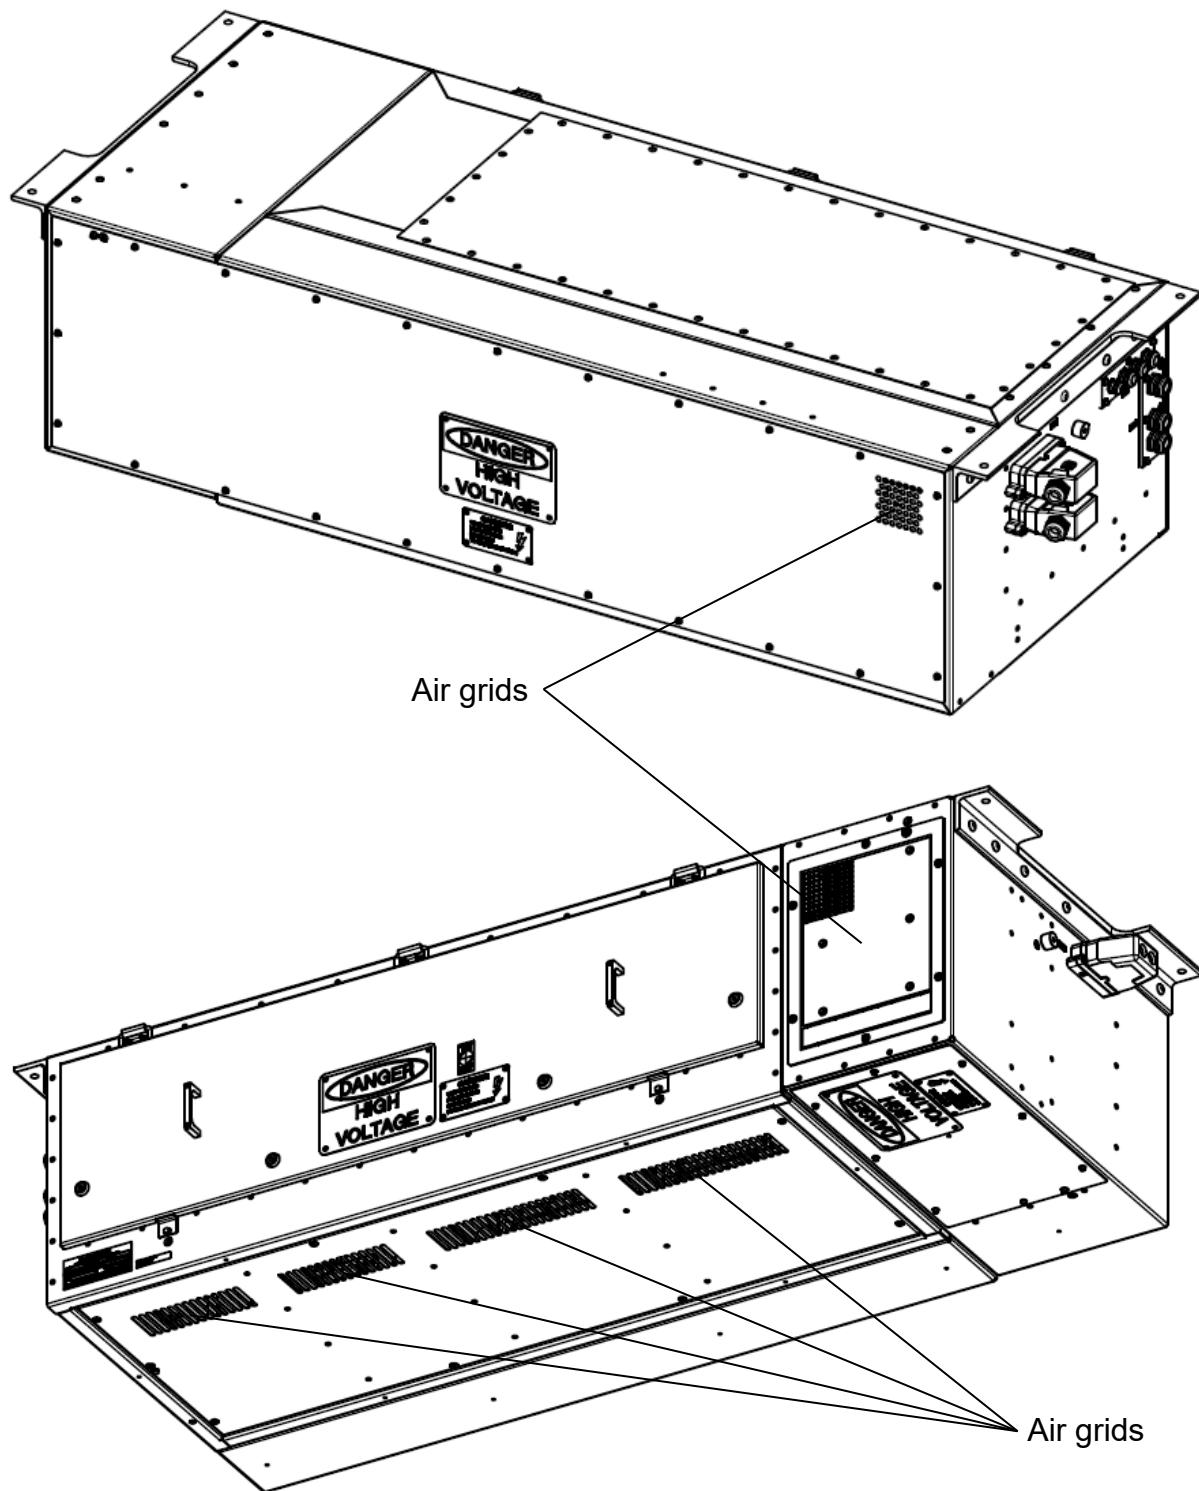

Figure 3-5: Air Grids of the APS
1. Check the APS for any damage, loose parts or unusual debris at the air grids. See Figure 3-5.